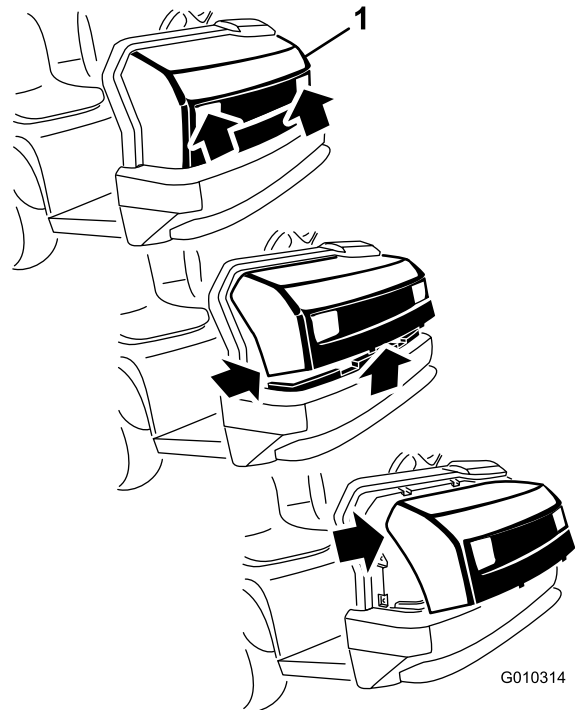

Figure 6
1. While grasping the hood in the headlight openings, lift up on the hood to release the lower mounting tabs from the slots in the bumper (Figure 6).
2. Pivot the bottom of the hood upward until the top mounting tabs can be pulled from the frame slots (Figure 6).
3. Pivot the top of hood forward and unplug the wire connectors from the head lights (Figure 6).